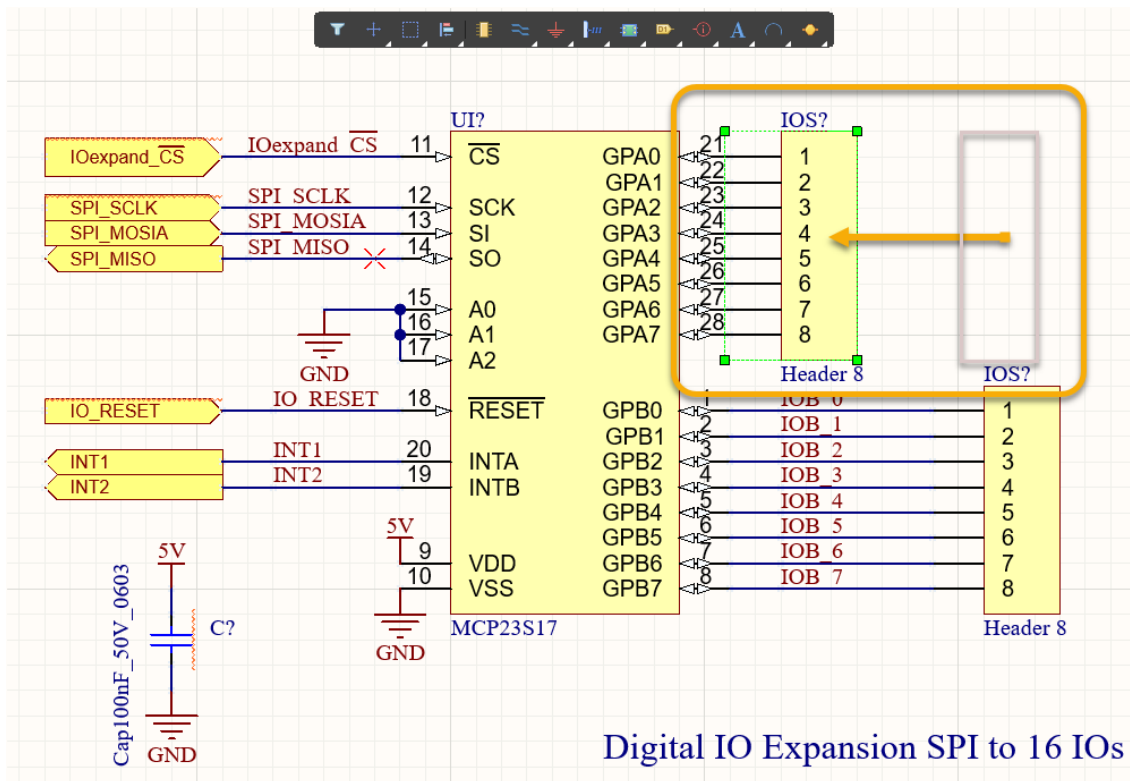

Figure 32. Connecting pins for MCP23S17 and first Header 8
50. Hold the left-click and drag the header over to `MCP23S17` that pins of the `IOS?` header bump up against Pins 21-28 of `MCP23S17` as shown in Figure 32 below.